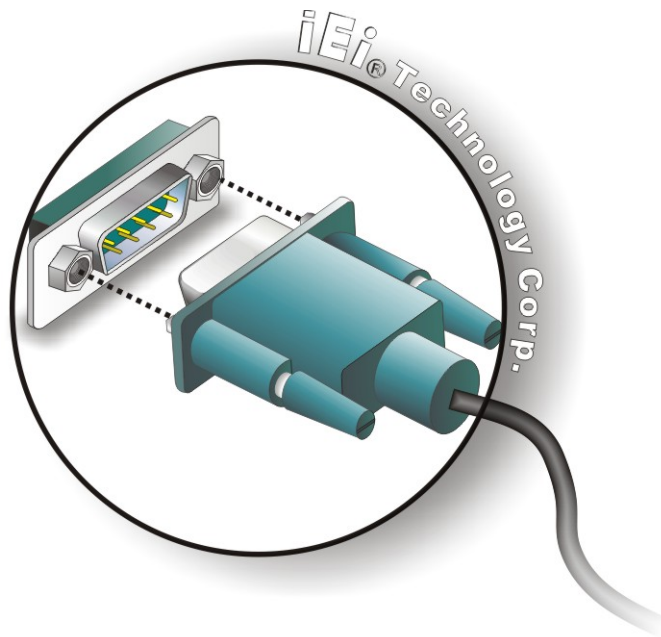

Figure 4-19: Serial Device Connector
Step 2: Insert the serial connector. Insert the DB-9 connector of a serial device into the DB-9 connector on the external peripheral interface. See Figure 4-19.